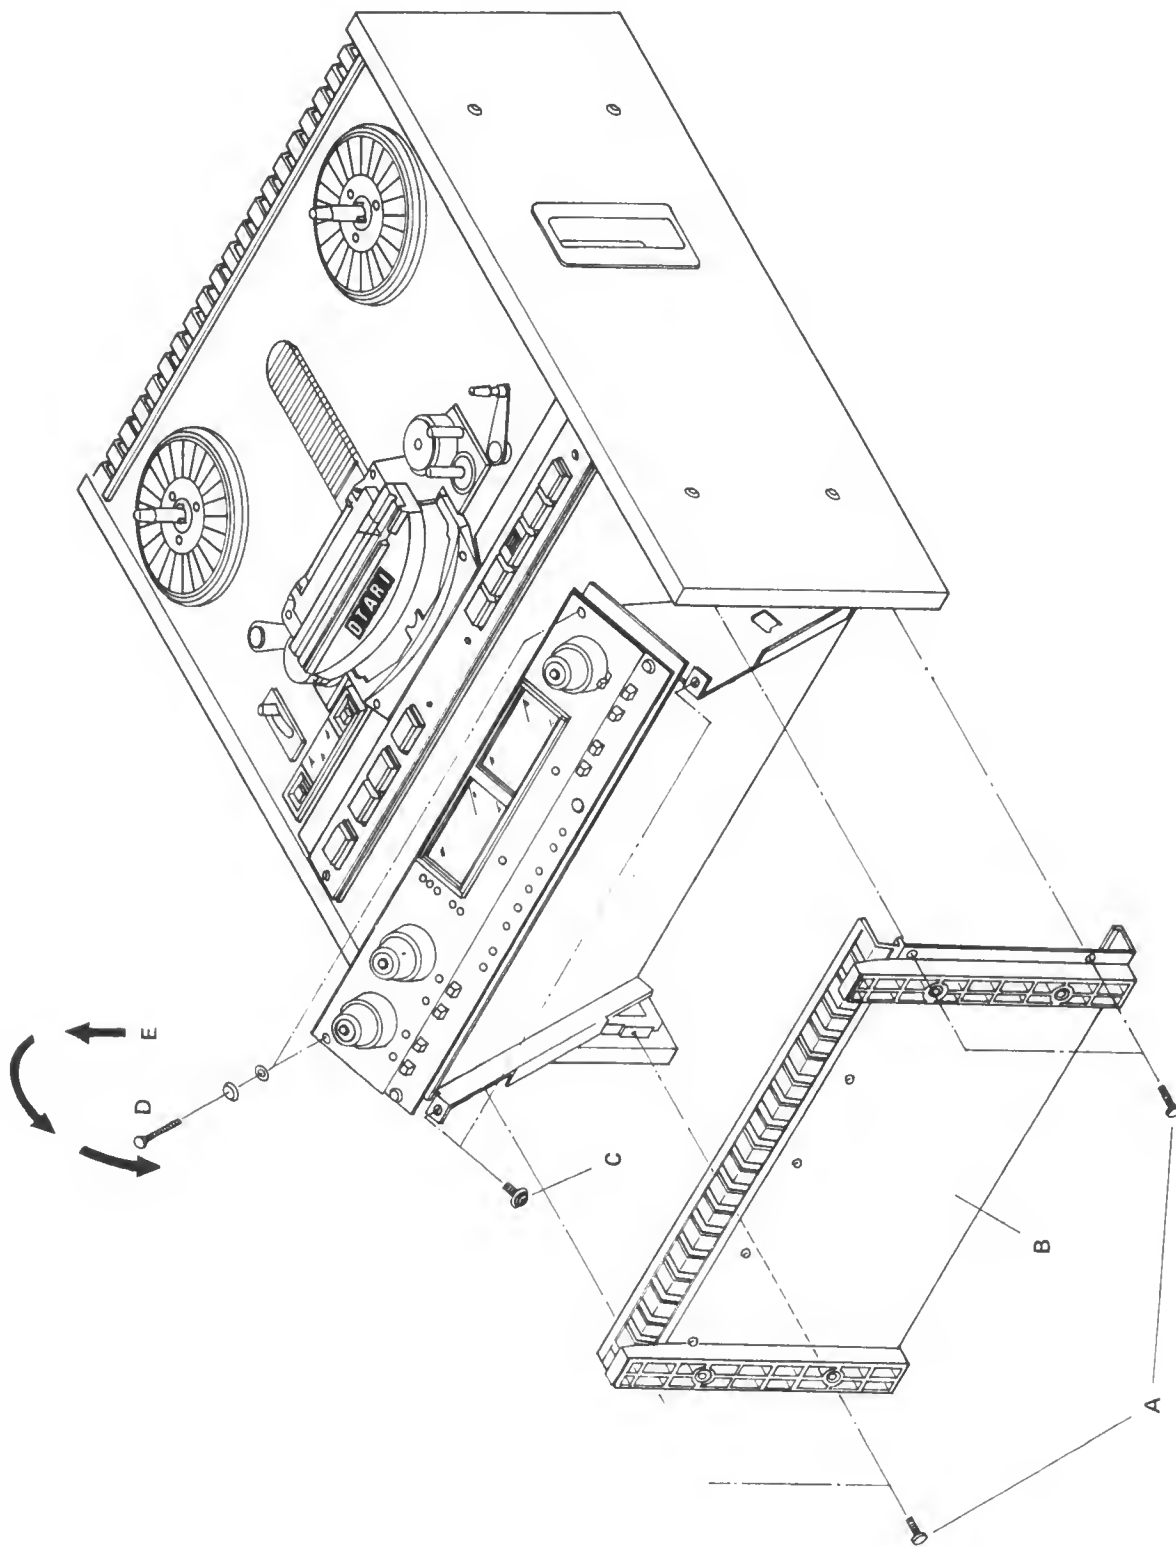

Fig. 5-1 Access to the Amplifier
- (1) Remove the 4 screws marked "A" from the bottom panel and remove the bottom panel marked "B".
- (2) Remove the 2 screws marked "C" in Fig. 5-1, also remove the 2 screws marked "D". Then pull the amplifier section up and rotate it toward you.